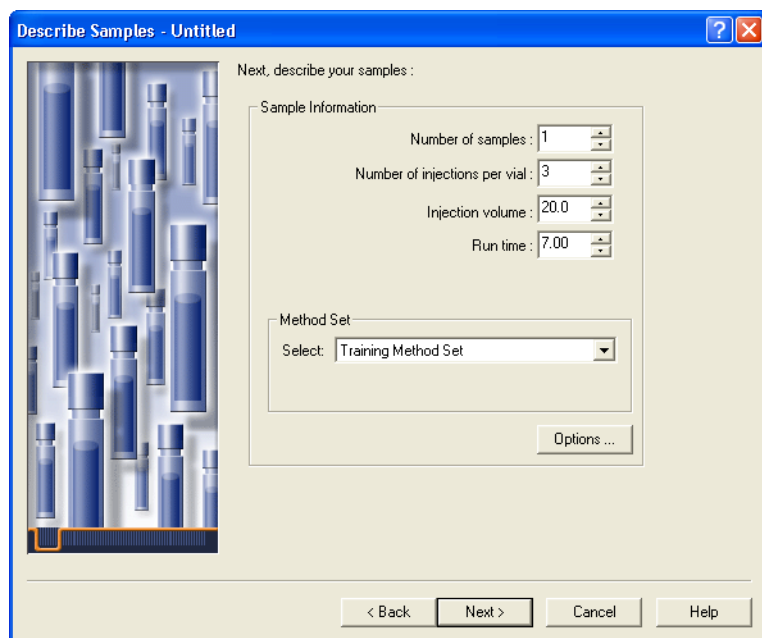

Figure 5-7 New Sample Set Method Wizard, Describe Samples Page
7. Set the injection volumes to **10**, **20**, and **30**, then accept the other default settings. Click **Next**. The Describe Samples page appears (Figure 5-7).